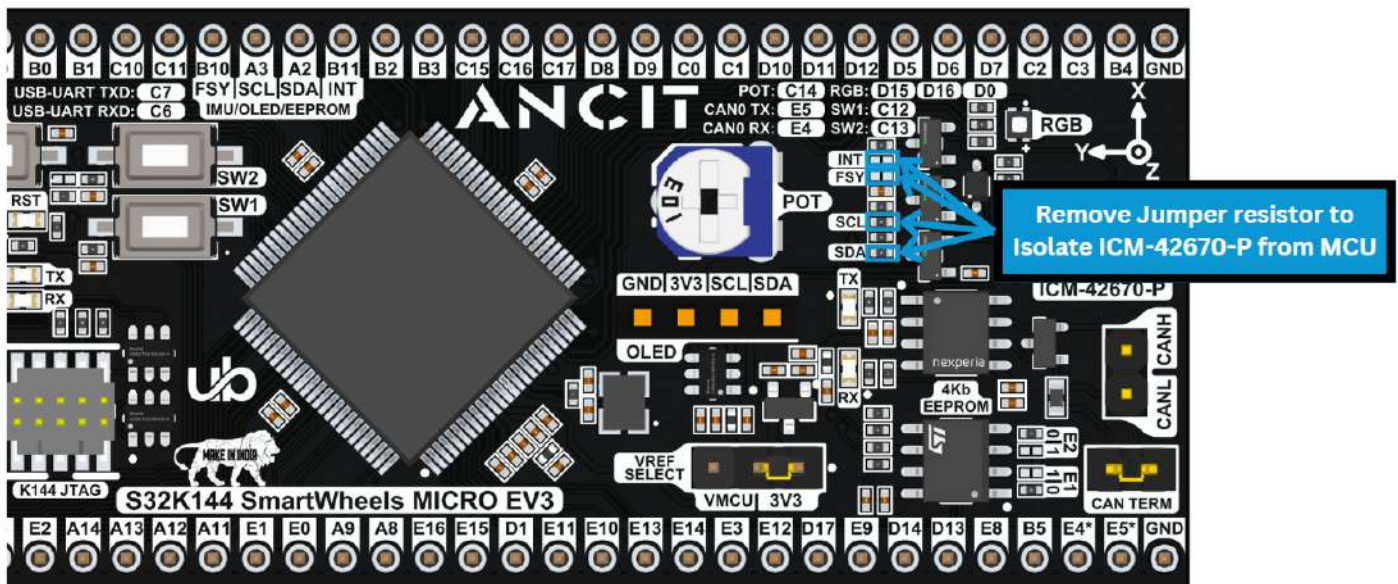

Fig 17 : I2C Address Selection Jumper Resistors
- GPIO pin PTB10 is used to send the FSYNC signal to the ICM-42670-P IMU and GPIO pin PTB11 is used as an input for interrupt signal from ICM-42670-P IMU. Both these pins of ICM-42670-P are isolated from the S32K144 microcontroller so that the user can use these MCU GPIOs for other applications with external peripherals. However if the user wishes to interface the FSYNC and interrupt pins of the ICM-42670-P IMU, they need to solder bridge the jumper resistor pads as shown in the Fig 17. above. This will connect the Reset and Interrupt signals from the ICM-42670-P to PTB10 and PTB11 pins of the microcontroller respectively.
- The user can also isolate the ICM-42670-P IMU from S32K144 MCU by removing the jumper resistors as shown in Fig 17. Removing these jumper resistors will effectively disconnect the ICM-42670-P from the S32K144 microcontroller therefore the user can use the PTB10, PTA3, PTA2 and PTB11 without any interference from the onboard ICM-42670-P IMU. The jumper resistors that are used for isolating the ICM-42670-P from S32K144 are also labeled as "INT", "FSYNC", "SDA" and "SCL" so the user is able to identify the jumper resistors effectively.